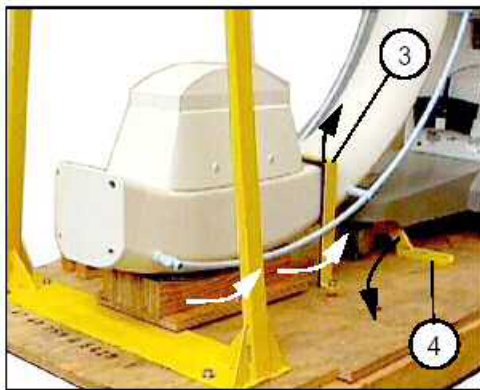

Fig. 8: Retaining clamp\_3\_4
- Unscrew and remove the retaining clamp (3/Fig. 8 / p. 7) and holding block at the tube.
- Unscrew, tilt, and remove the retaining clamp (4/Fig. 8 / p. 7).